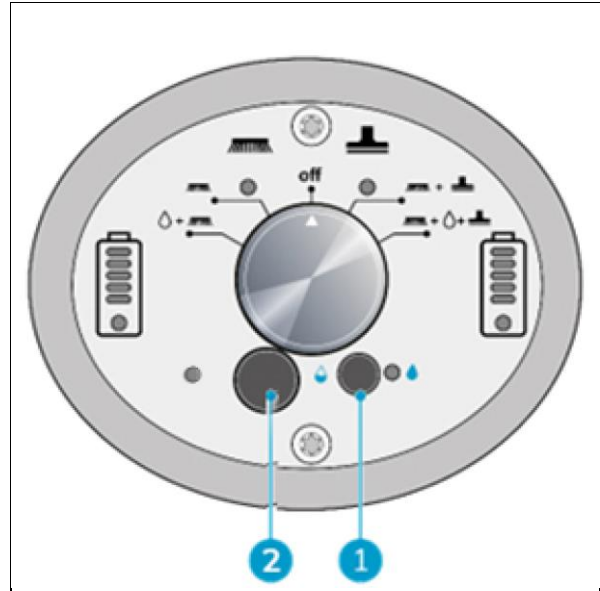
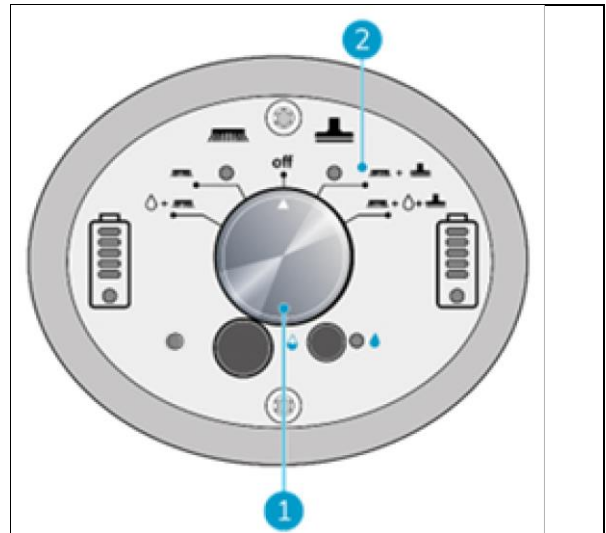

Figure 21
Figure 22
1. Turn on the ECO mode by pushing the ECO button, after you have selected your cleaning mode. (Figure 21, pos 1).
3. To adjust water flow when ECO mode is activated, you can remove the rubber cap (Figure 21, pos 2) and use a small flathead screwdriver to change the flow rate on the dial below the cap. See flow rate table on the next page.
13. Use the i-mop XXL main switch (Figure 21, pos 1) and choose MODE 3 Brush + Dry vacuum (Figure 22, pos 2).